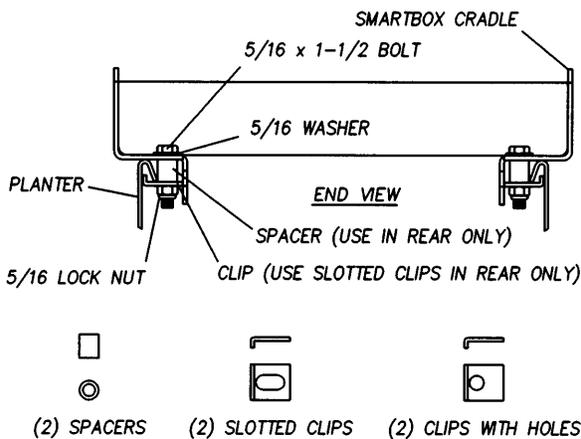

Figure 6
2. Orient SmartBox® cradle as shown in Figure 6.